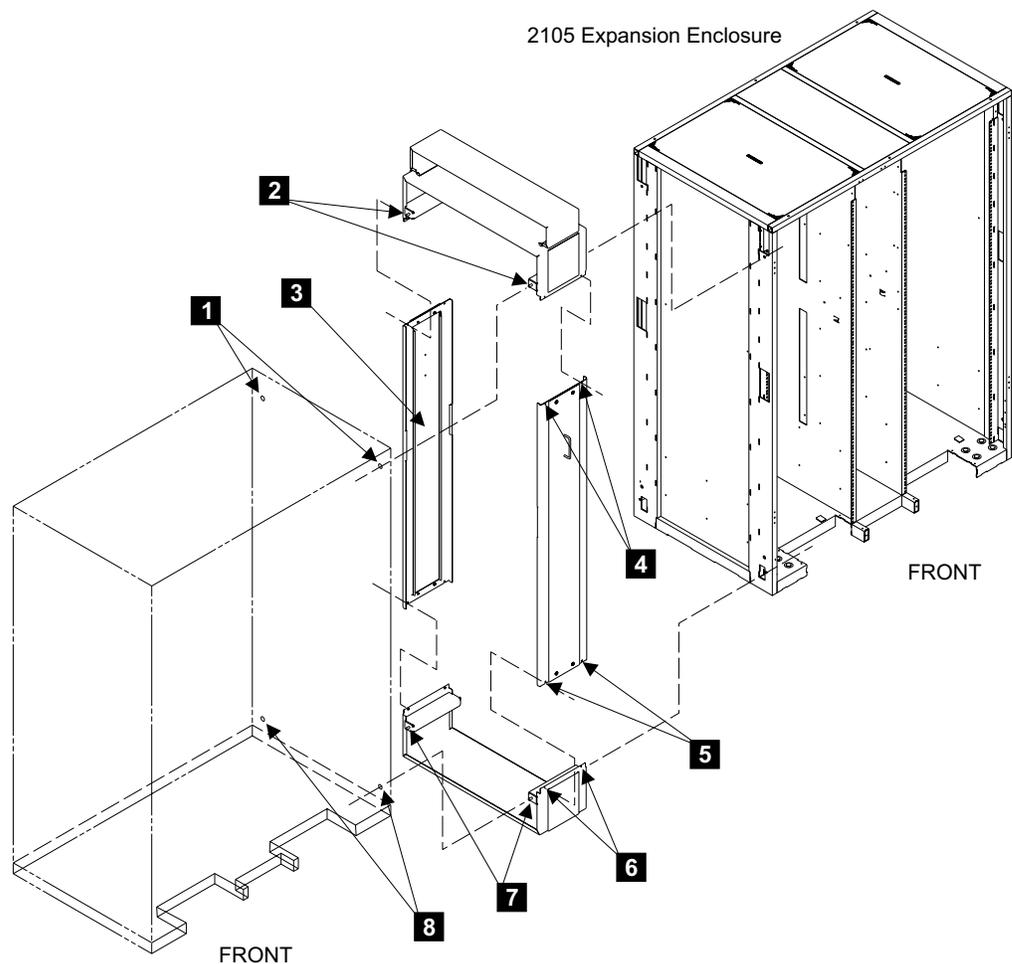

Figure 263. Installation of 2105 Rack Spacers (S008671q)
- a. Refer to Figure 263 on page 273.